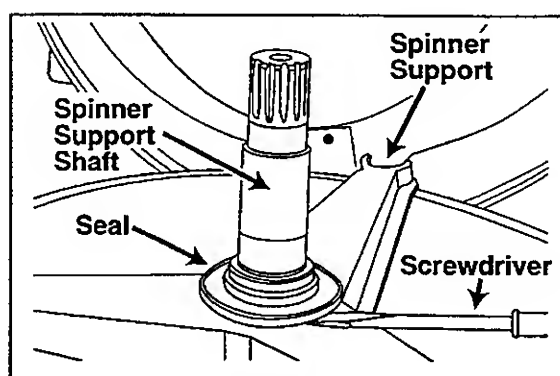

Figure 7-9
3. With a flat bladed screwdriver, pry the seal carefully off the tub support shaft (*Figure 7-9*).